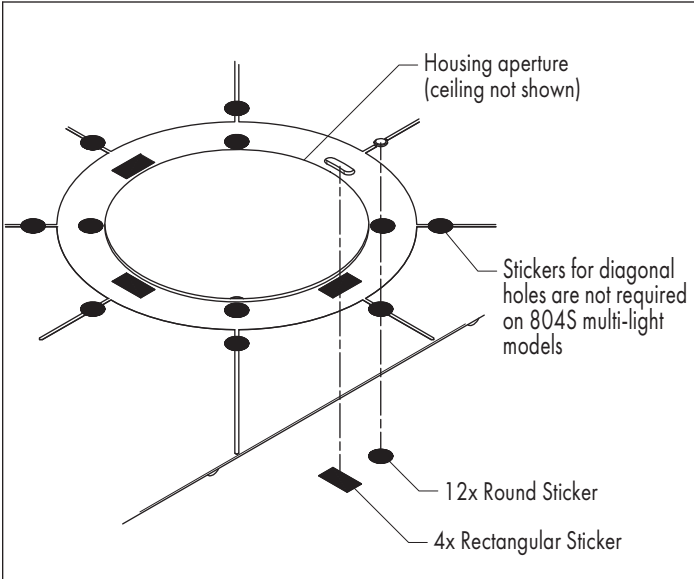

FIG 3.1 Install Housing Stickers
- STEP 1 To reduce possibility of light leak, apply round & rectangular Stickers over unused holes & slots around each housing aperture as shown (prior to installing ceiling)-**FIG 3.1**.